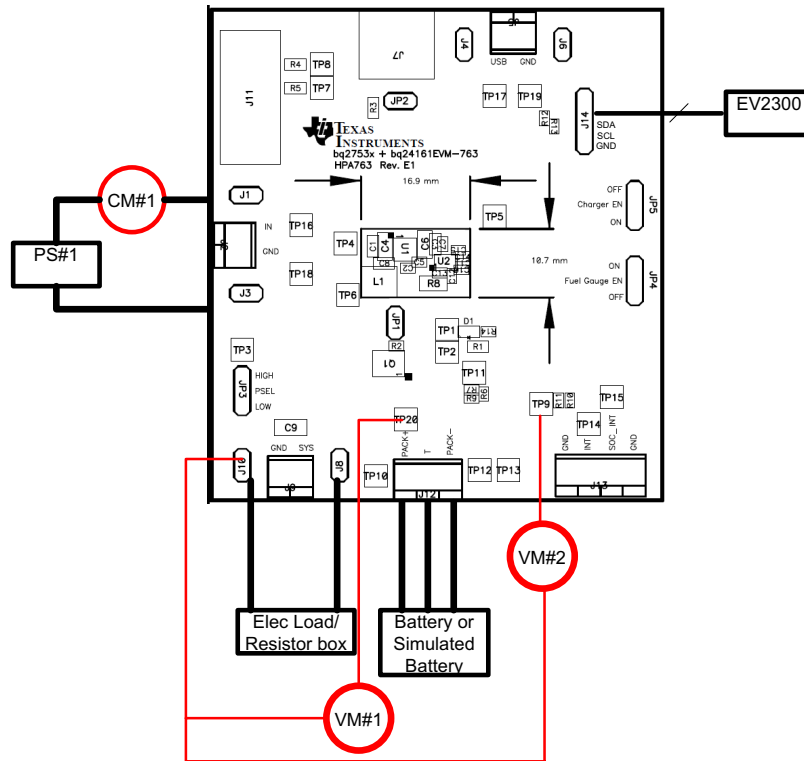

Figure 8. Original Test Setup for bq24160/161/163/168EVM (HPA721)
3. If BAT\_Load as shown in Figure 8 is used, connect Power Supply #2 (PS #2) set to approximately 3.6 V to the input side (PS #2+/-) of BAT\_Load, then turn off PS #2.
9. After the preceding steps have been performed, the test setup for HPA721 is configured as is shown in Figure 8